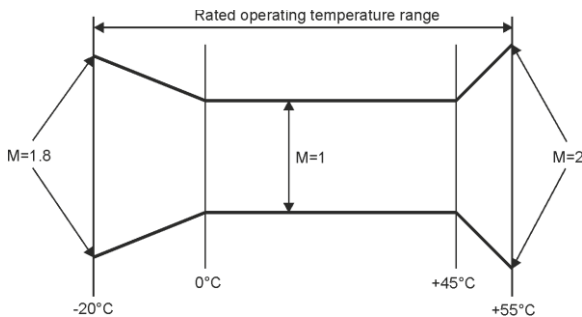

Fig. 42. Basic uncertainty multiplier M as a function of ambient temperature.
Basic uncertainty given in technical specifications is guaranteed for the ambient temperature range of 0°C...+45°C. Outside this range, use an additional multiplier (M), which increases the specified basic uncertainty to the actual measurement uncertainty. Fig. 42 shows a graph of M multiplier, depending on the ambient temperature within nominal operating temperatures. The multiplier has a value of 1.0 in the temperature range of 0°C...+45°C. Above +45°C and up to +55°C, the multiplier rises in linear manner up to 2.0. Below 0°C (down to -20°C), the multiplier rises in linear manner up to 1.8.